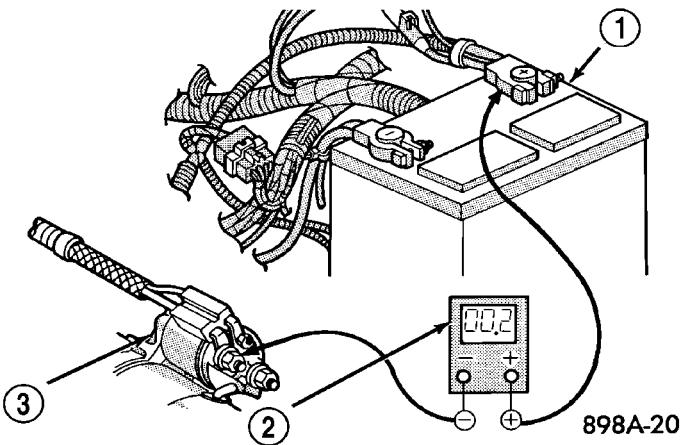

Fig. 15 Test Battery Positive Cable Resistance - Typical
(3) Connect the voltmeter to measure between the battery positive cable terminal clamp and the starter solenoid B(+) terminal stud (Fig. 15). Rotate and hold the ignition switch in the Start position. Observe the voltmeter. If the reading is above 0.2 volt, clean and tighten the battery positive cable eyelet terminal connection at the starter solenoid B(+) terminal stud. Repeat the test. If the reading is still above 0.2 volt, replace the faulty battery positive cable.